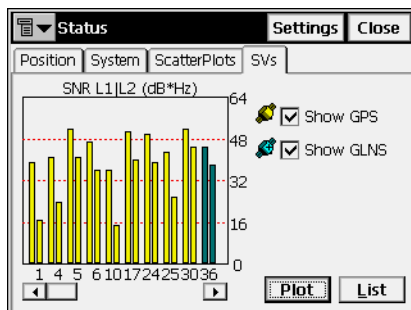

Figure 5-9. Status – SVs SNR
- **SNR**: toggles the appearance of the screen to a table displaying the signal-to-noise ratio of each of the satellites (Figure 5-9).